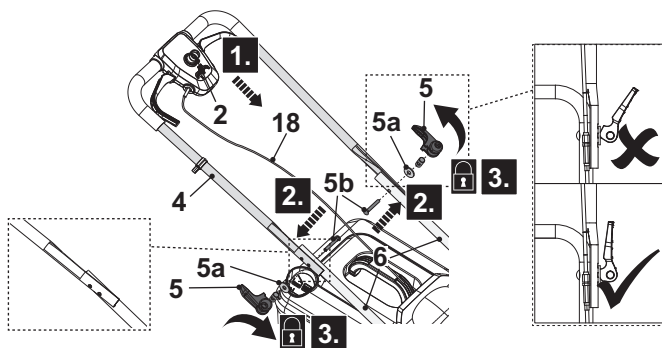

Fig. 3
4. Hold the upper handle bar (4) with the safety switch button (2) facing upwards. Align the mounting holes of the upper handle bar (4) and the lower handle bars (6) (Fig. 3, step 1).
5. Pass the mounting bolt (5b) through the mounting holes to the end (Fig. 3, step 2).
- Secure the inter-connection cord (18) with two wire clips (17) (Fig. 3). Pull the inter-connection cord (18) to avoid contact with the rear wheel (9) if necessary.